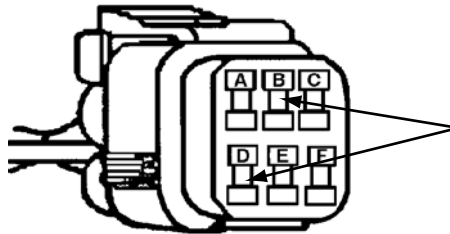

Figure 7-7 1992–1995 Metro connector jump pins
- Jump pins as shown in Figure 7-7 on the connector near the left strut tower on the firewall.